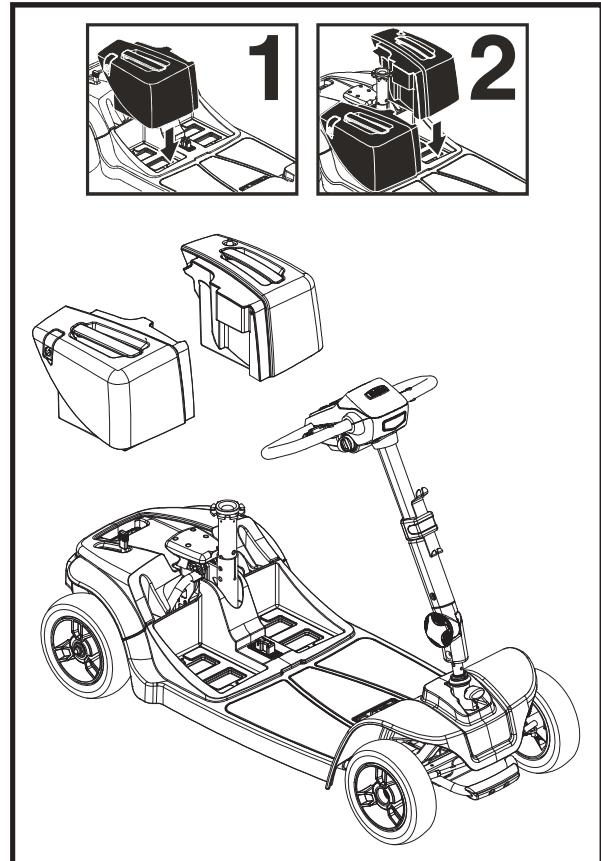

Figure 23. Battery Box Installation of models 66 and 67
12. Reinstall the battery packs onto the scooter and engage the battery pack locks. Always reinstall the right side battery pack first. **See figure 23.**